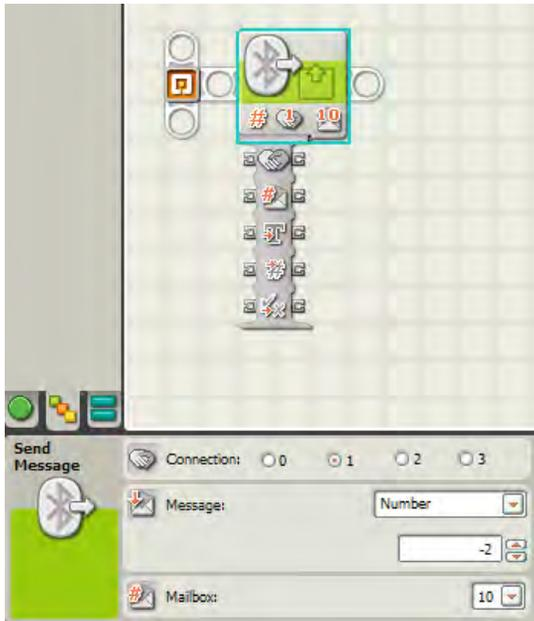

Figure 25-6. The SEND MESSAGE block and its configuration panel
The SEND MESSAGE block is shown in Figure 25-6 along with its configuration panel.
■ **Note** As with most of the advanced NXT blocks, the SEND MESSAGE block can be configured to receive Text, Number, or Logic values using data wires, as shown in Figure 25-6. Note that the Connection data plug is a value between 0 and 3 and is used to identify the master or slave NXT device. The master device is always configured to use the value 0, and up to three additional NXT bricks can be linked via Bluetooth, with each being identified by 1, 2, or 3. Earlier in the chapter you saw how the BLUETOOTH CONNECTION block is used to select a communication port—1, 2, or 3—to assign to a brick. When sending and receiving data between bricks, you'll want to pay attention to the port configured in the SEND MESSAGE and RECEIVE MESSAGE blocks so you get the proper data from the proper brick.